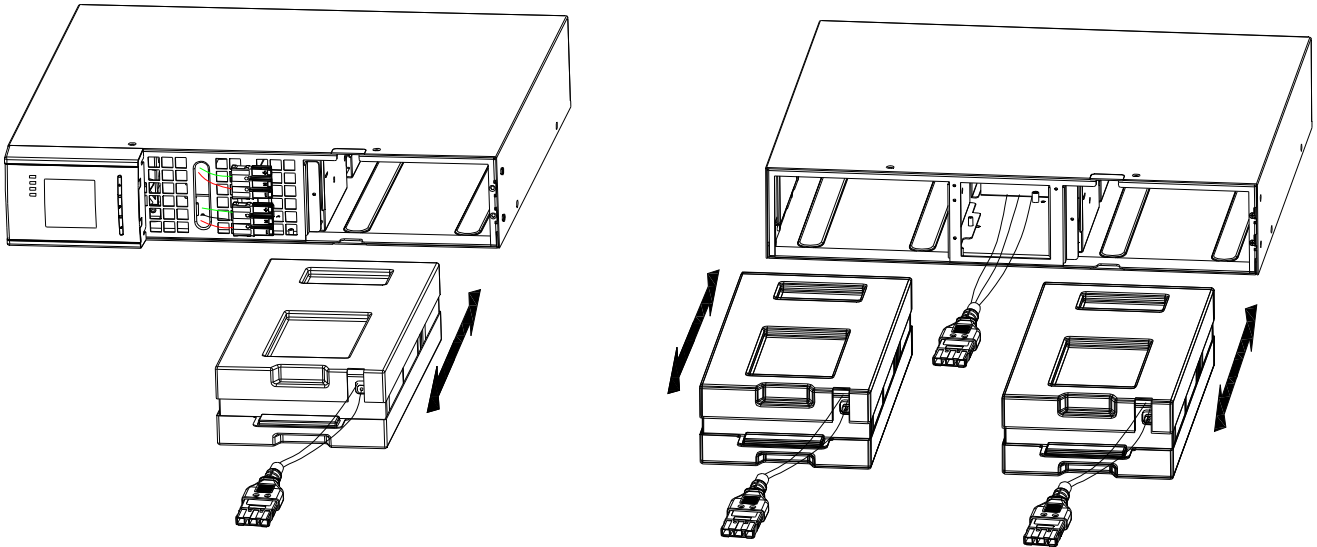

FIG. 22 Remove the battery park
3. Grasp the handle in front of the battery pack, take out of it and hold it, then remove the battery pack as fig. 22 shown.